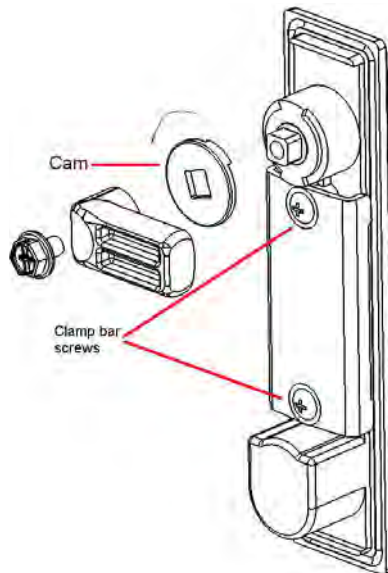

Fig. 2.3.2.1a Latch and lock assembly
2. Remove the latch and lock assembly and latch faceplate from the door by removing the two clamp bar screws on the back side of the latch (see Fig. 2.3.2.1a).